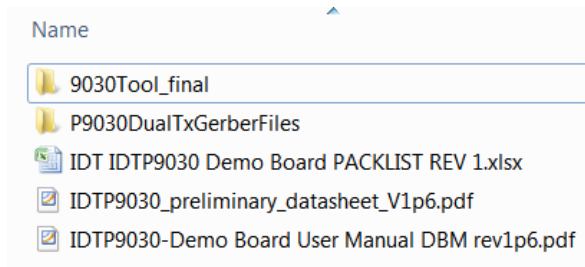

Figure 2. File folder structure on the CDROM.
1. Install the Wireless Power Demo Windows GUI software by executing the Setup.exe file in the folder “9030Tool_final” (Figure 2 and 5).